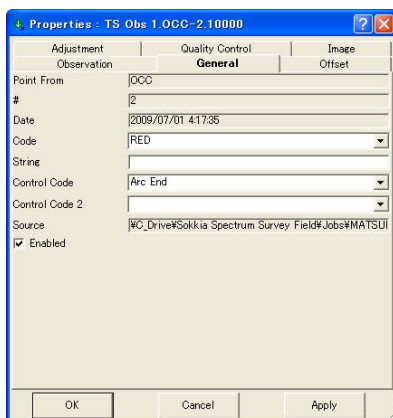

Figure 5-105. General Properties
2. View or edit *General* tab fields (Figure 5-105 on page 5-70).